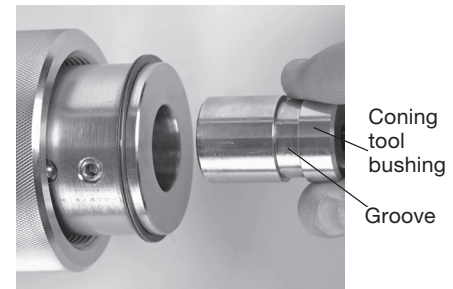

Fig. 10 Removing/Installing the coning tool bushing
3. Remove the coning tool bushing. (Fig. 10)
4. Install the appropriate size coning tool bushing into the housing with the marked side facing out and the groove in the coning tool bushing aligned with the set screw. Align the face of the coning tool bushing with the end of the housing. (Fig. 10 and 11)